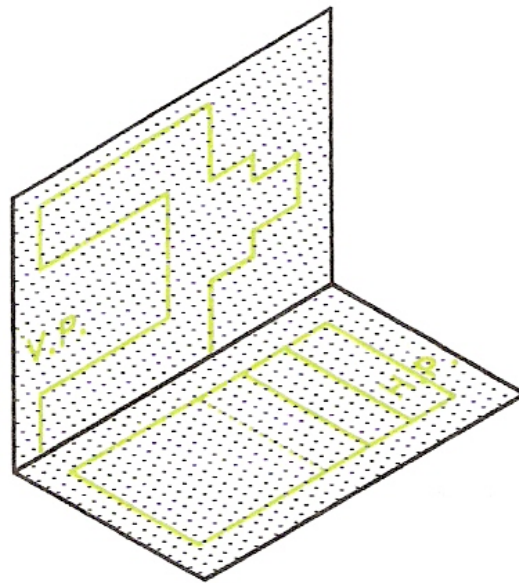

Figure 3 - Front View and Plan Drawn onto the V.P. and the H.P.
3. The object is removed from its place between the two planes - Figure 3.